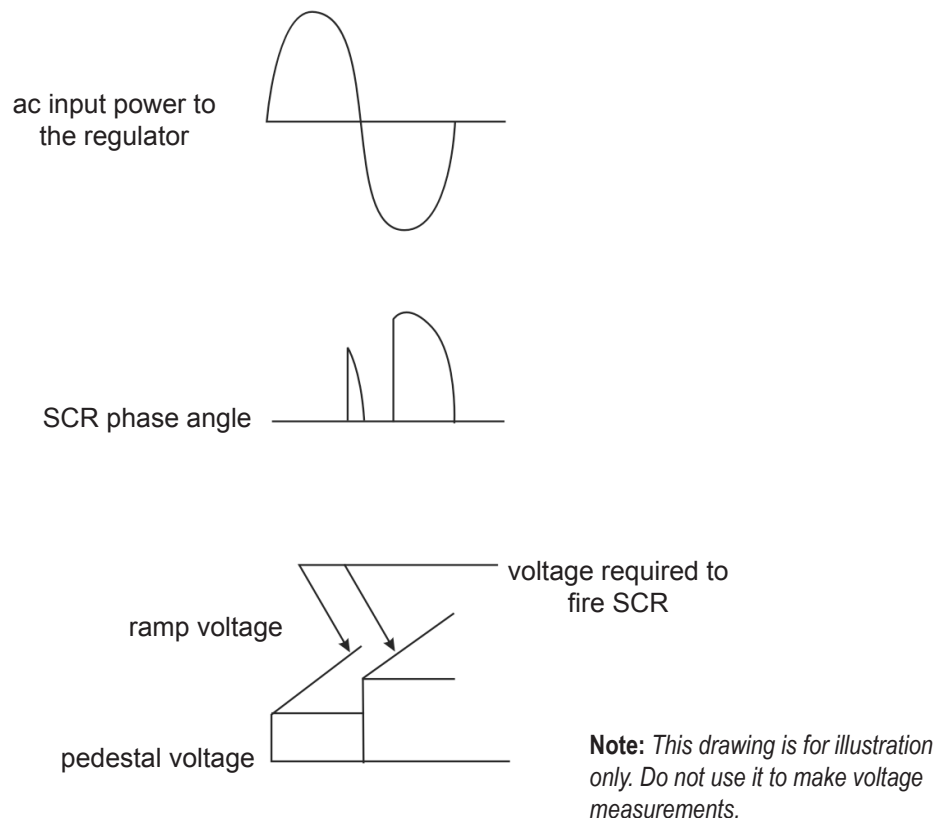

Figure 2: Effect of timed gating signal on SCR phase angle
The phase control circuit is a “ramp-and-pedestal” control that regulates the phase angle of the power controller circuit SCRs by controlling the “turn on” signal it supplies to the gate of the SCRs. An exponential ramp voltage that starts from a voltage pedestal provides the “turn on” gating signal. Because the ramp voltage starts from the voltage pedestal, a small change in the amplitude of the pedestal voltage results in a large change in SCR phase angle as shown in Figure 2.
- 1) For single-phase sensing, terminals are E1 and E3. See Figures 2 and 3.
- 5) A current transformer is required for generators operating in parallel. The connection is shown on this drawing: 1 A current transformer and reactive voltage droop compensation. See Figures 2 and 3.